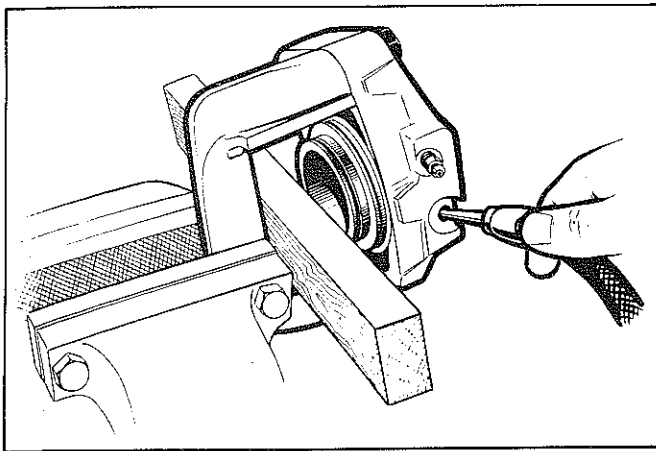

Fig. 6—Removing caliper piston
- (5) Remove the pads from the support.
- (6) Remove the piston dust boot and the fluid supply hose.
- (7) Assemble the pad support bracket onto the caliper body and install the joining bolts finger tight.
- (8) Hold the caliper assembly in a vice and with a piece of wood positioned on the outer pad support face, carefully blow the piston out of the caliper body by slowly applying compressed air to the hydraulic port. Refer Fig. 6.